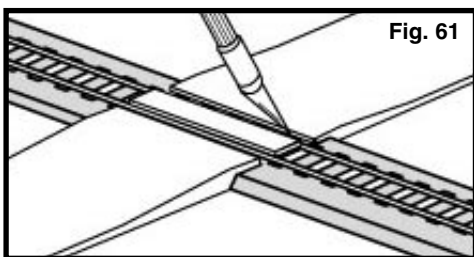

Fig. 61
- G. Carefully run a knife down the inside of the rails several times, scoring a groove in the Smooth-It to allow clearance for train wheels (Fig. 61).